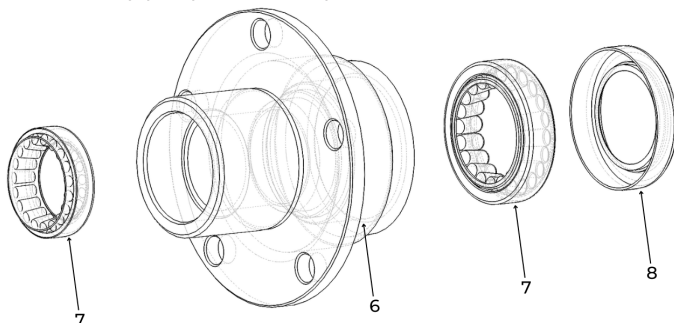

Figure 44. Wheel Hub Inspection.
3. Remove the cast-iron case filler plug (5). (Figure 44)